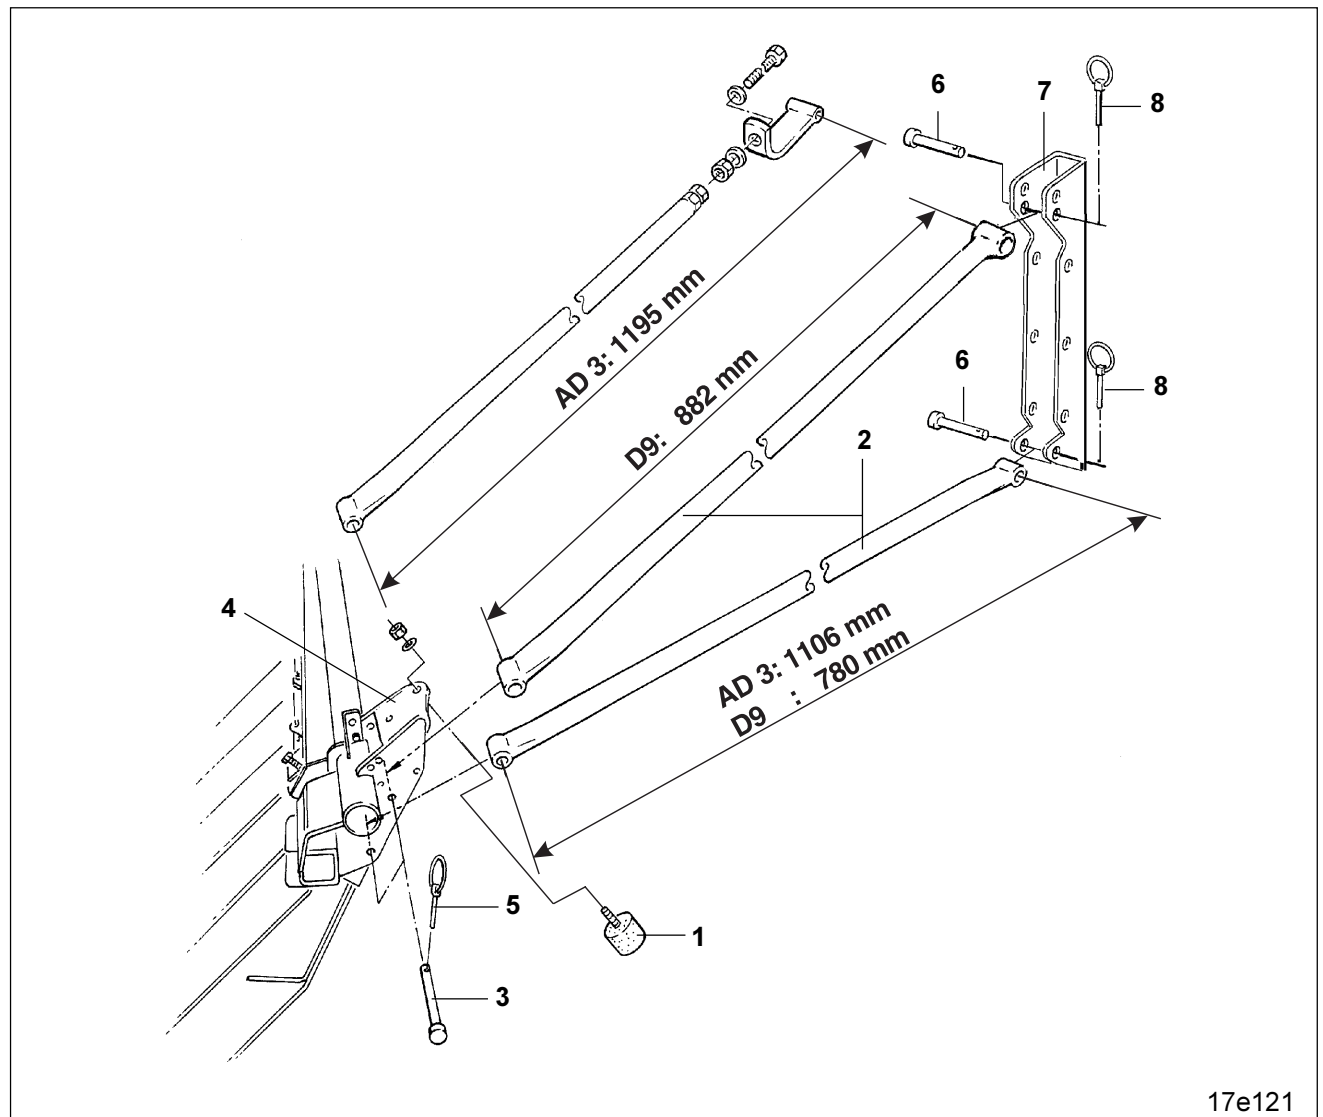

Fig. 14.2
- Bolt on the rubber buffer (Fig. 14.2/1).
- Locate fixing tubes (Fig. 14.2/2) with pins (Fig. 14.2/3) on the fixing brackets (Fig. 14.2/4) of the extra coverage following harrow and secure by using clip pins (Fig. 14.2/5).
- Locate fixing tubes (Fig. 14.2/2) with pins (Fig. 14.2/6) on the fixing brackets (Fig. 14.2/7) and secure by using clip pins (Fig. 14.2/8).